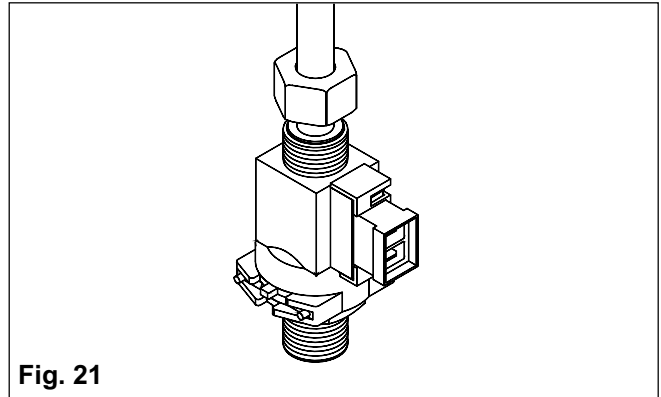

Fig. 21
6.10 DOMESTIC WATER FLOW SWITCH fig. 21